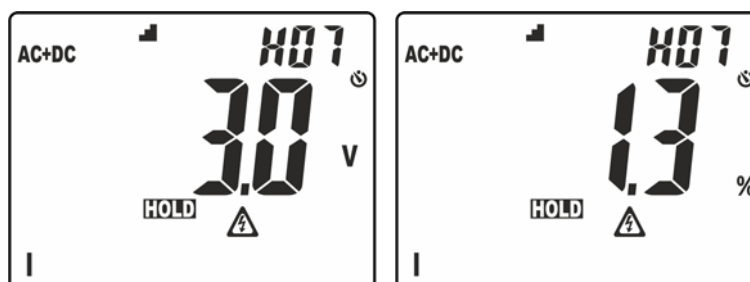

Fig. 4: Display of ordering of amplitude of harmonic analysis
- Long pressing of the key (at least 2s) in order to activate the **H₂O** (**H**igher **H**armonic **O**rdering) ordering function of the amplitude of harmonics. In these conditions, function "HOLD" is automatically activated, symbol \blacksquare is shown on the display, the bargraph is disabled and the instrument shows the value of amplitude of all harmonics between the 2nd and the 25th, in **decreasing order** from the harmonic with the highest value, as shown in Fig. 4.
In the example in Fig. 4, the harmonic with the highest value corresponds to the 7th. Press key \blacktriangle to observe the amplitude of the remaining harmonics and press key **H/H%/H \blacksquare** again to switch between display in absolute and percentage values. Turn the rotary switch to exit the function.